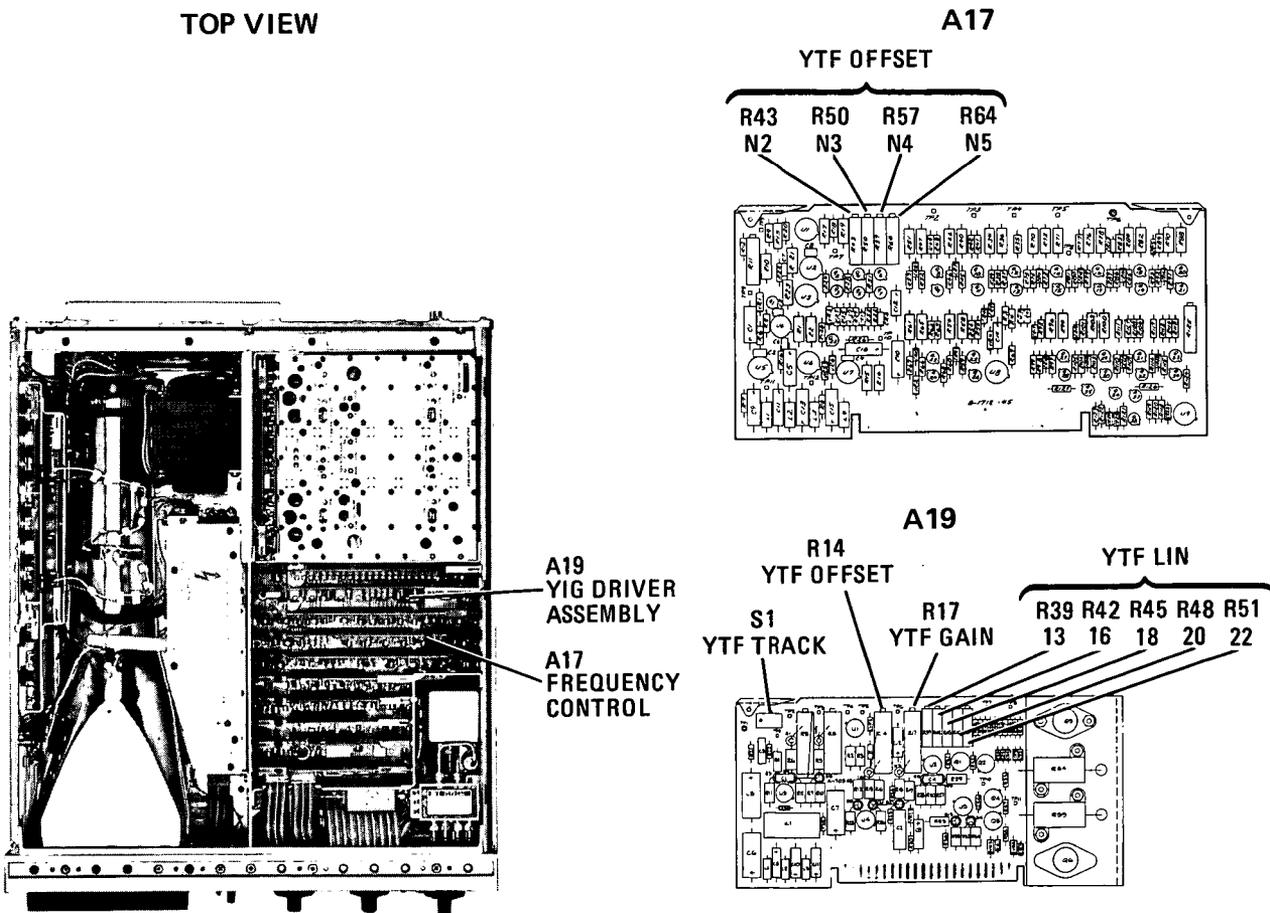

Figure 5-52. YTF Tracking Adjustment Locations
- c. Set A19S1 YTF TRACK (Figure 5-52) switch to TEST position.